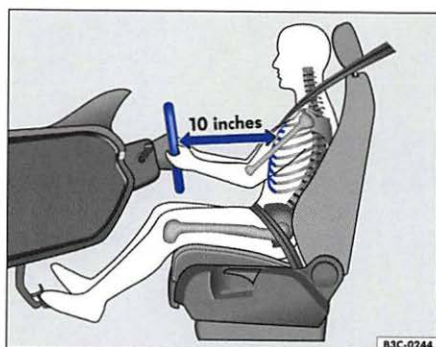

Fig. 23 Illustration of principle: proper seating position for driver
- Adjust the steering wheel this way until the correct position is set ⇒ fig. 23.
10 inches (25 cm) between your breastbone and the steering wheel ⇒ fig. 23.